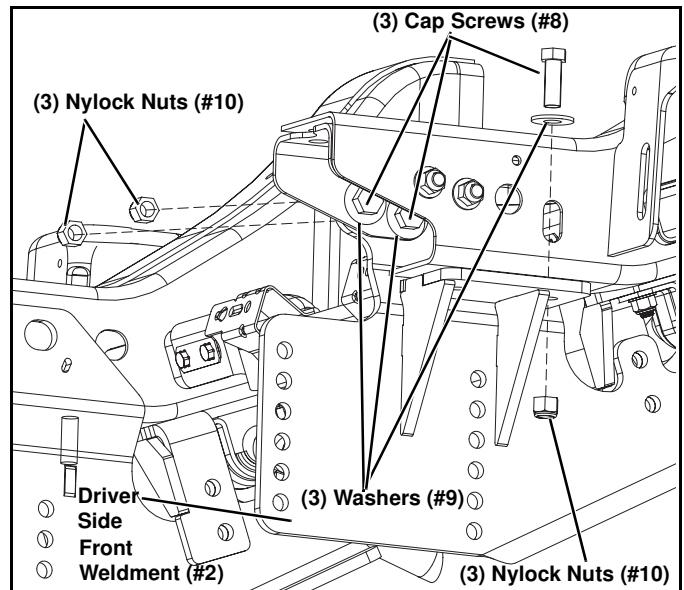

Figure 6
9. Loosely secure the sway bar and Rear Weldments (#4) in place with (4) 7/16" Flat Washers (#6) and (4) 7/16"-20 Nylock Nuts (#7).
10. Align the Driver Side Front Weldment (#2) with the holes in the side of the driver side frame rail and the slot on the bottom of the truck frame (See Figure 6). Loosely secure with (3) 1/2"-13 x 1-1/2" Cap Screws (#8), (3) 1/2" Flat Washers (#9), and (3) 1/2"-13 Nylock Nuts (#10).